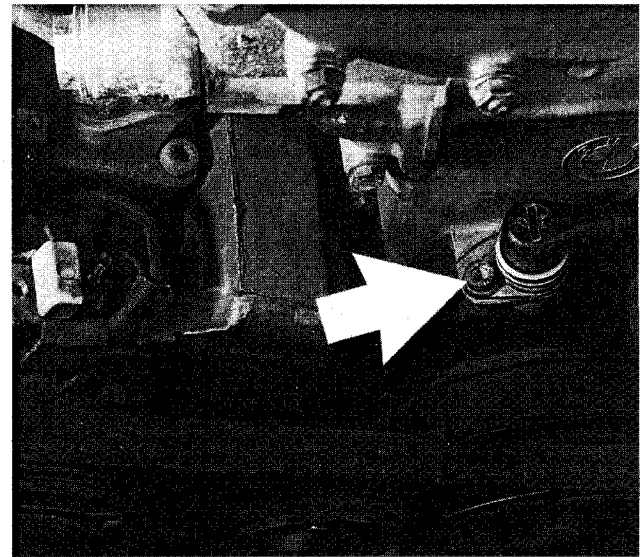

Fig. 17. 1992-1995 M50 engine speed sensor on timing cover (arrow).
8. Remove engine speed sensor from lower timing chain cover, if applicable. See Fig. 17.